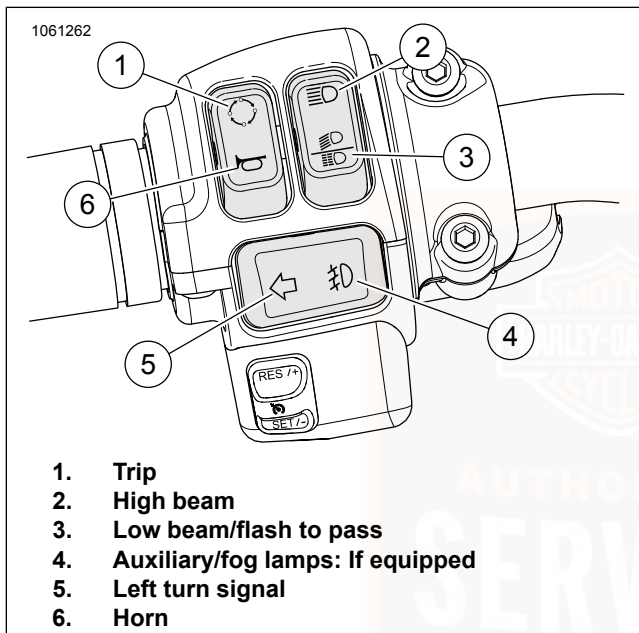

Figure 30. Left Hand Switch Module (typical)
See Figure 30. The trip switch (1) activates the trip odometers. The trip switch also is used to scroll through the optional screens of the odometer display. With the ignition off, the trip switch can activate time or odometer displays. Refer to Table 31.
See Figure 30. Press the high beam switch (2) to activate the high beam. The (blue) high beam indicator lamp is lit when the high beam is on. Refer to Table 31.
Low beam: See Figure 30. Press the bottom of the switch to (3) activate the low beam.
See Figure 30. Press the auxiliary/fog lamps switch (4) to activate the auxiliary/fog lamps. Refer to Table 31
Activate: See Figure 30. Press the left turn signal switch (5) to activate the left turn signal. Refer to Table 31.
See Figure 30. The horn is operated by pressing the horn switch (6). The horn can be activated for up to 10 seconds at a time. If the horn switch is held for a longer period, the horn automatically deactivates. Refer to Table 31.